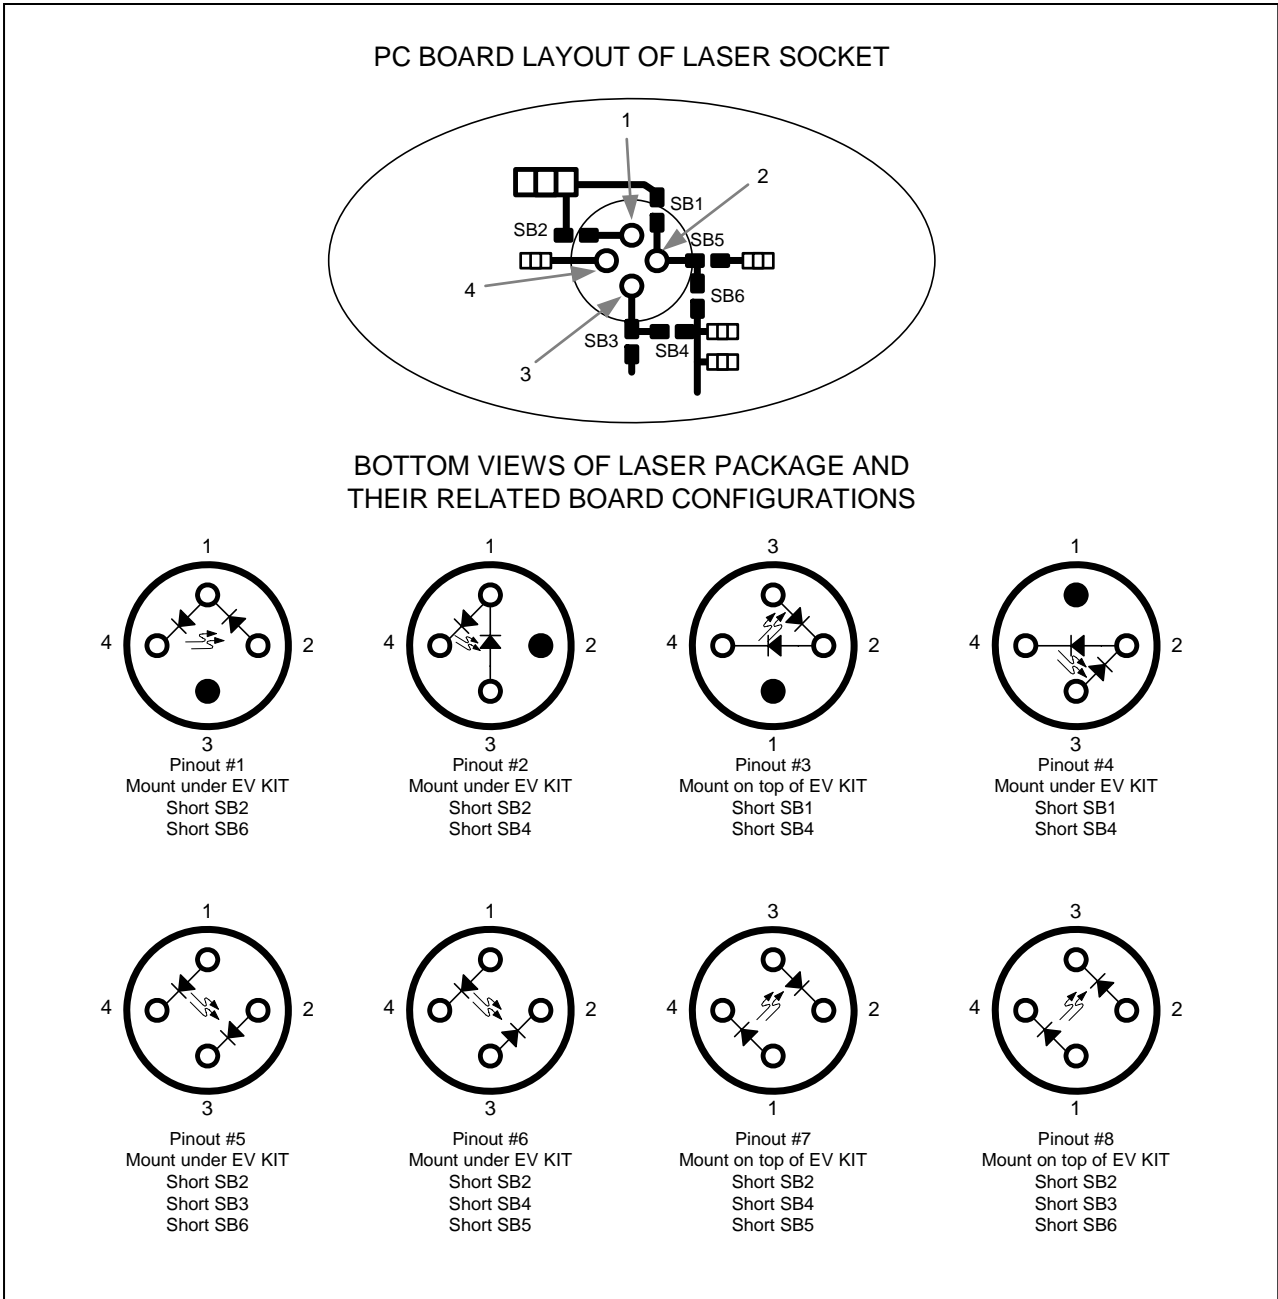

Figure 2. Optical Configurations
- 1) Solder a laser to through-hole connection D1. Use Figure 2 to determine which solder bridges (SB1 thru SB6) need to be shorted and how the laser should be mounted on the EV kit. Be sure to keep the laser leads as short as possible to keep parasitic inductance minimized.